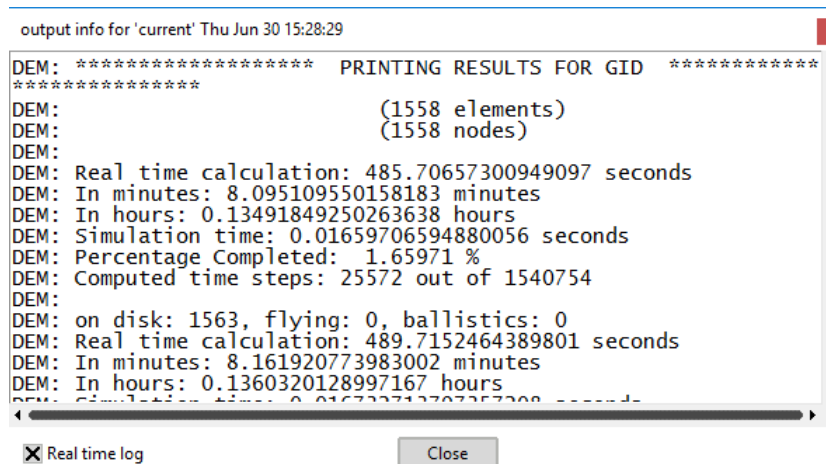

Figure 32. Output information of the simulation.
- **Process info:** during the simulation, it will appear some information about the progress of the simulation, such as the time calculating up to that moment or the percentage completed (only available if the stop criterion is “Total time simulated”). For more detailed information you can click on “Process info” and the complete report will pop up (Figure 32).